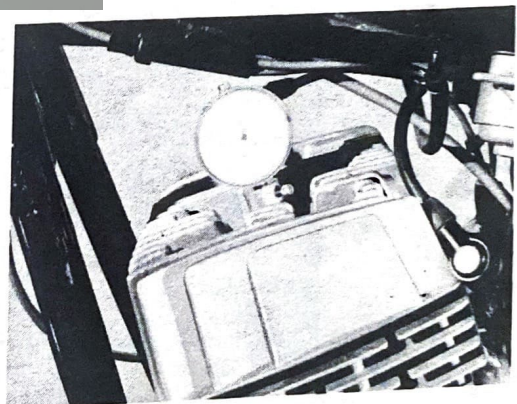

Fig. 6-5-14
- a. Install a dial gauge adapter in the plug hole on the cylinder head, and then install the dial gauge. Set the indicator at zero when the piston is at top dead center. (Fig. 6-5-14)